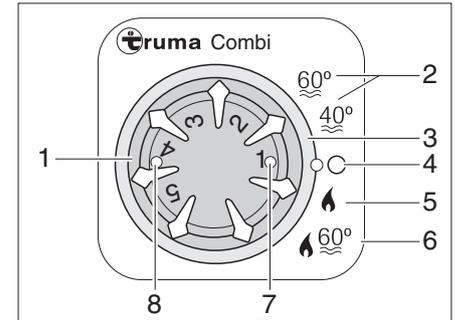

Fig. 82 Operating unit for heater/boiler
- ▶ Set the operating mode using the rotary switch (Fig. 82,3).
The heater selects the required burner setting according to the set heating level. In the "Heater and boiler" operating mode (Fig. 82,6) the water in the boiler is also heated. The heater can be operated with an empty boiler in the "Heater without boiler" operating mode (Fig. 82,5).
- ▶ Set the temperature control knob (Fig. 82,1) at the operating unit to the desired heating level.
- ▶ Set the rotary switch (Fig. 82,3) to winter operation "Heater without boiler" (Fig. 82,5) or to winter operation "Heater and boiler" (Fig. 82,6).
Green indicator lamp (Fig. 82,7) lights up.
- ▶ Set the rotary switch (Fig. 82,3) to "0" (Fig. 82,4).